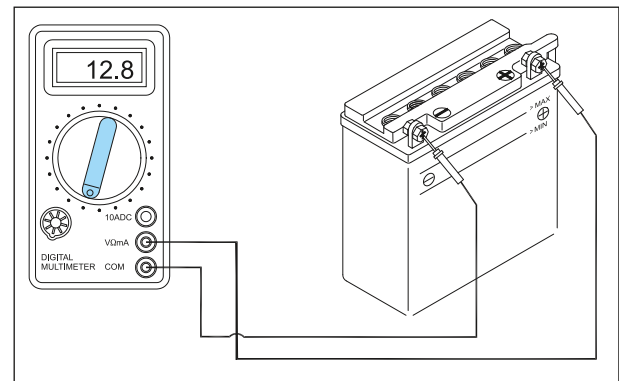

Fig. 6.62
- As the battery gets fully charged the ammeter needle on the charger will come down to initial reading on the scale. This is the indication for full charge of the battery. (Fig. 6.62)
- The output voltage should be more than 12.6 V. (Fig. 6.62)